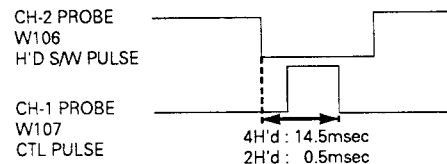

Fig. 7 Tracking Preset Adjustment
3. Set tracking preset to 14.5msec (2H'd : 0.5msec) using the "FINE" button ▲/▼ of remote control. (Refer to Fig. 7 and 8)